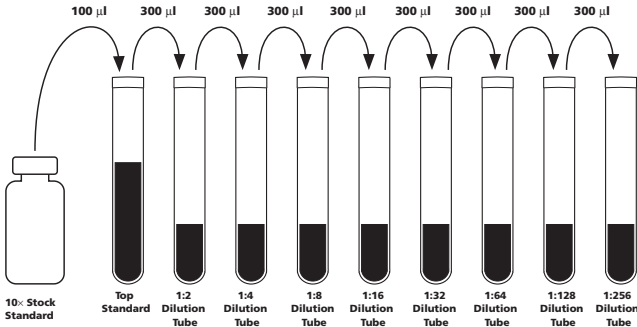

Figure 2. Preparation of Mouse Th1/Th2 Cytokine Standard Dilutions
6. Perform a serial dilution by transferring 300 µl from the Top Standard to the 1:2 dilution tube and mix thoroughly. Continue making serial dilutions by transferring 300 µl from the 1:2 tube to the 1:4 tube and so on to the 1:256 tube and mix thoroughly (see Figure 2.) The Assay Diluent serves as the negative control.